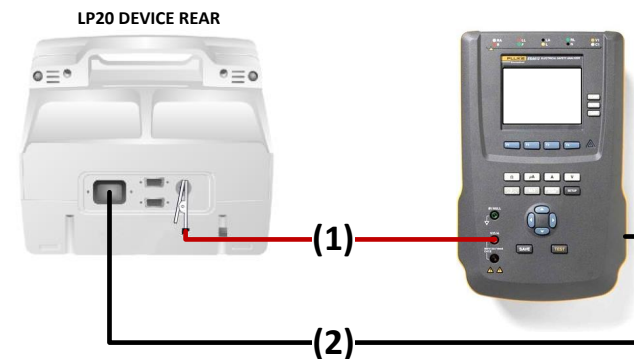

Figure 1.30b
5. Establish the setup as shown in Figure 1.30b.
7. Measure the resistance of device with the AC power cord per figure 1.30b. Record the resistance value on the PIP checklist.